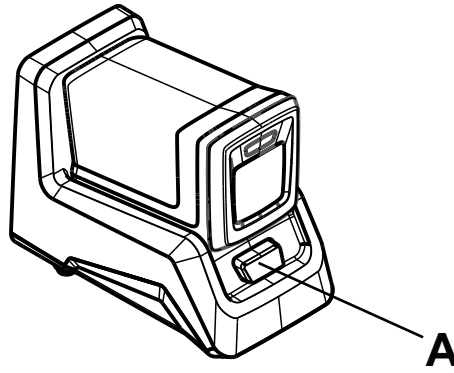

Figure 40 – Charging the battery
2. Press the battery release button (A) and slide the charged battery out of the charger (Figure 40).